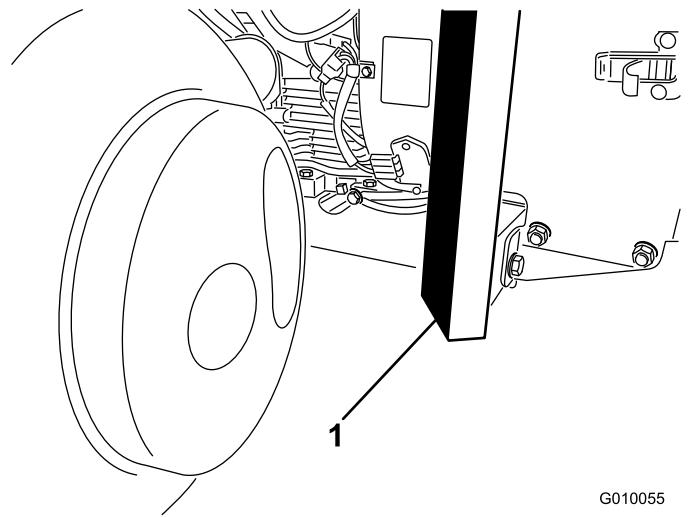

Figure 38
3. Position the jack securely under the front of the frame (Figure 38).